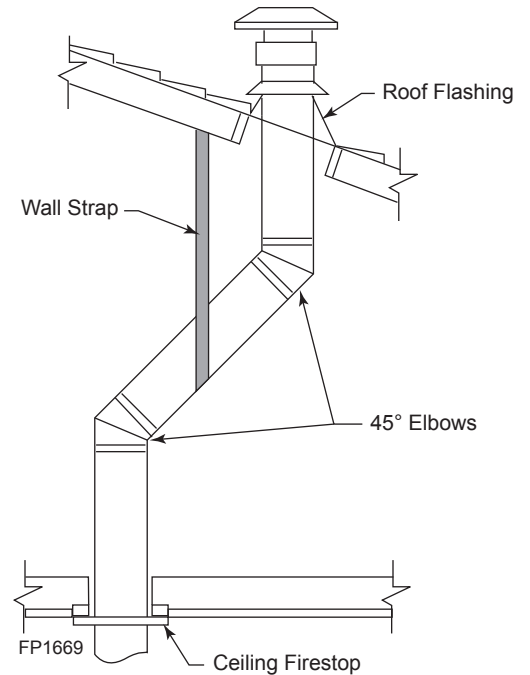

Figure 29 - Offset with Wall Strap and 45° Elbows
1. Determine the route your vertical venting will take. If ceiling joist, roof rafters or other framing will obstruct the venting system, consider an offset. Figure 29 to avoid cutting load bearing members.